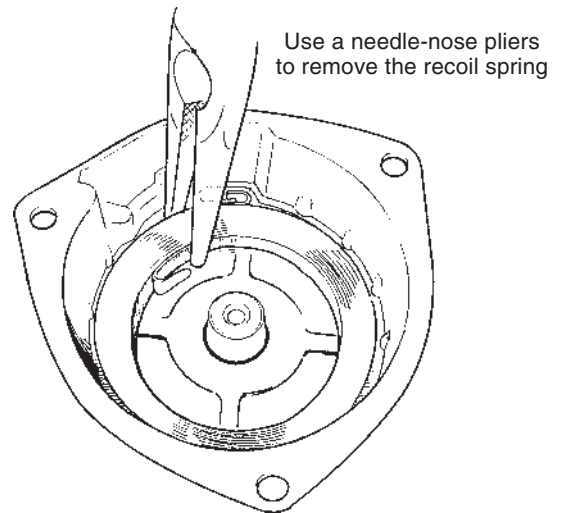

Figure 4.3 Removing the recoil spring
**STEP 3.** Remove the spring from the recoil housing or reel using a needle-nose pliers (Figure 4.3).